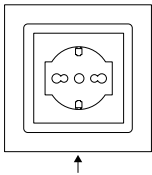

Figure 1
- 1 - To open STARK QM Socket, use a flat screwdriver and lever on the 2 tabs at the bottom (Figure 1).